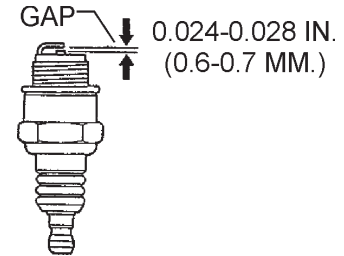

Figure 20. Spark Plug Gap
- Remove and clean the spark plug (Figure 20), then adjust the spark gap to 0.024 ~0.028 inch (0.6~0.7 mm). This unit has electronic ignition, which requires no adjustments.